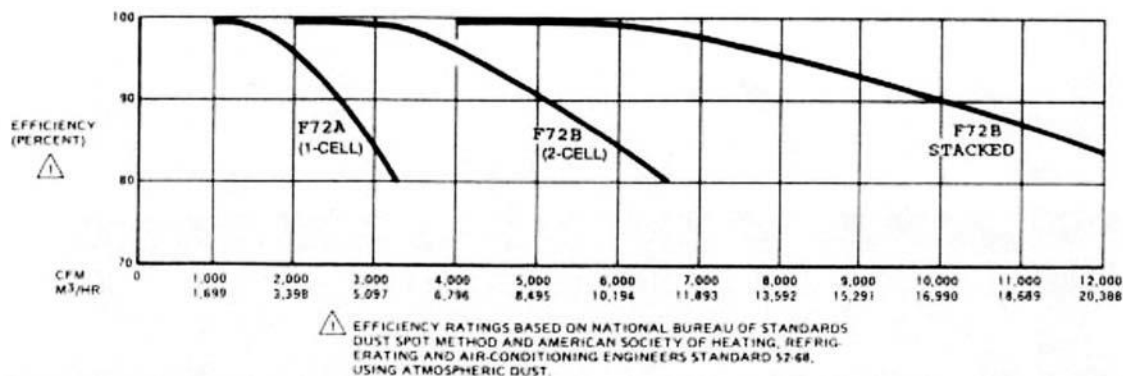

FIGURE 4 – F72 ELECTRONIC AIR CLEANER CAPACITY AND EFFICIENCY.
The F72 Induct Air Cleaner is usually sized according to the capacity of the air handling system and desired efficiency. See Fig. 4.
5. The percent operating efficiency required of the electronic air cleaner. The F72 efficiency should be from 85 to 95 percent depending on the application and purpose (see Efficiency Chart, Fig. 4).